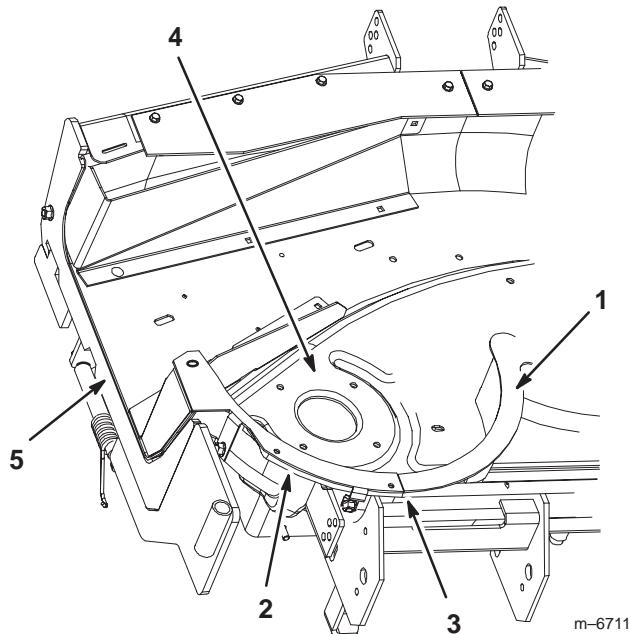

Figure 14
1. Place the right rear baffle (side discharge side) behind the right cutting chamber (Fig. 14). The tabs will mount on the outside of the mower.
2. Align the right rear baffle tight against and flush with the bottom of the center baffle and against the mower flange (Fig. 14 and 15).